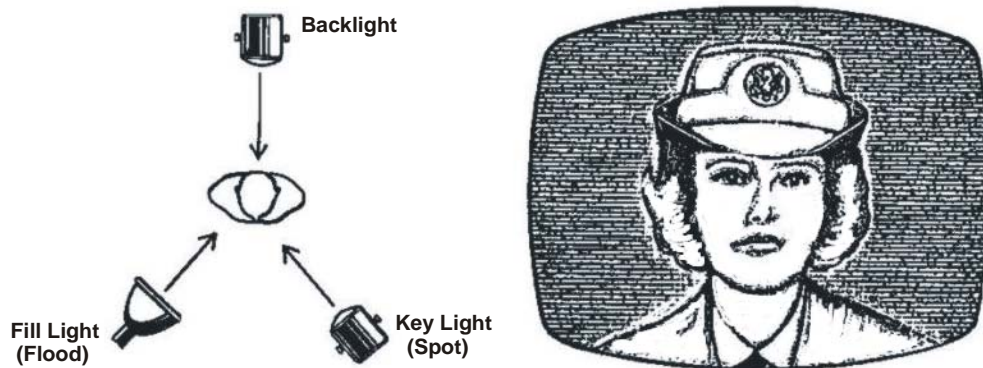

Figure I-7. Three-Point Lighting
(1) Generally, it is best to position the back light directly behind the object or subject being lighted (opposite the camera). However, if due to studio size constraints, the back-light must be placed to one side or the other; it is best to keep it as near to the rear of the object being lighted as possible.
(2) A more critical problem is controlling the angle at which the backlight strikes the object. If it is positioned directly above the object, it becomes a top light, which is undesirable. If it is placed too low, the backlight may shine into the camera lens causing flare and halo. This could also damage the camera pickup tubes. In general, lighting angles of 45 degrees are considered ideal for normal lighting situations.
(3) Like the key light, a spotlight is generally used as the back light. Once again, this allows a great deal of directional control over the light. Once the key lights are set, the dimension of the object should be shown quite well. However, the falloff from the light to dark areas is extremely fast. Also, the shadow area of the object is so dense that the camera is unable to see any object detail within this shadow area. Consequently, it becomes necessary to slow down the rate of falloff using a fill light (Figure I-7).
(4) When placing the fill light, care should be taken not to eliminate all shadows because this eliminates the three-dimensional effect we are trying to create.
(5) The ratio of key light to fill light is best if it is about 2:1. That is, the key light is twice as bright as the fill light. This will reduce shadow density but still maintain enough shadow area to complement rather than eliminate the three-dimensional effect.